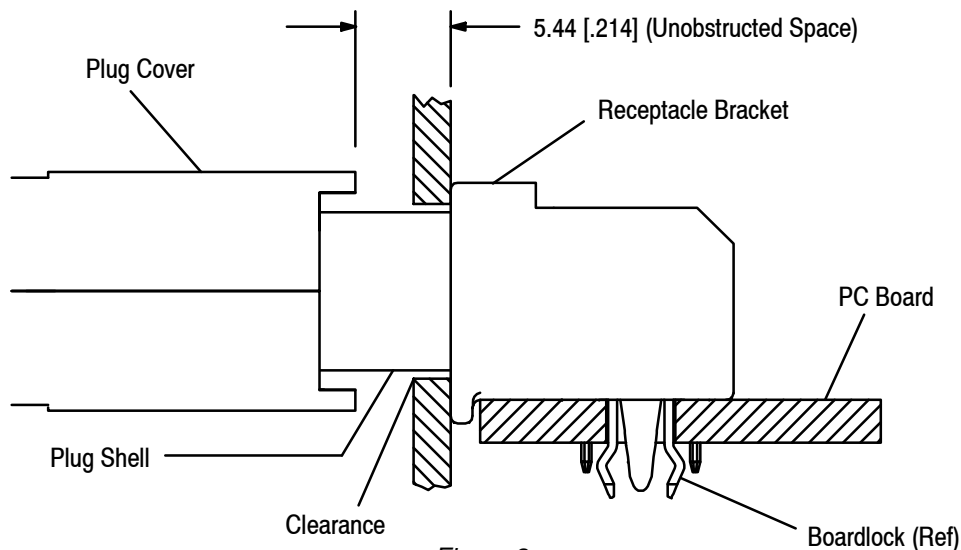

Figure 3
- Deleted Figure 3 and added new Figures 9, 10, and 11 and renumbered
A pc board receptacle connector must be panel mounted with screwlocks and mated with a terminated plug connector with a backshell kit attached to it. The receptacle must be mounted with sufficient clearance for the plug shell to seat on the receptacle bracket. There must be no obstruction between the receptacle bracket and plug cover that would prevent full mating of the connectors. See Figure 3.